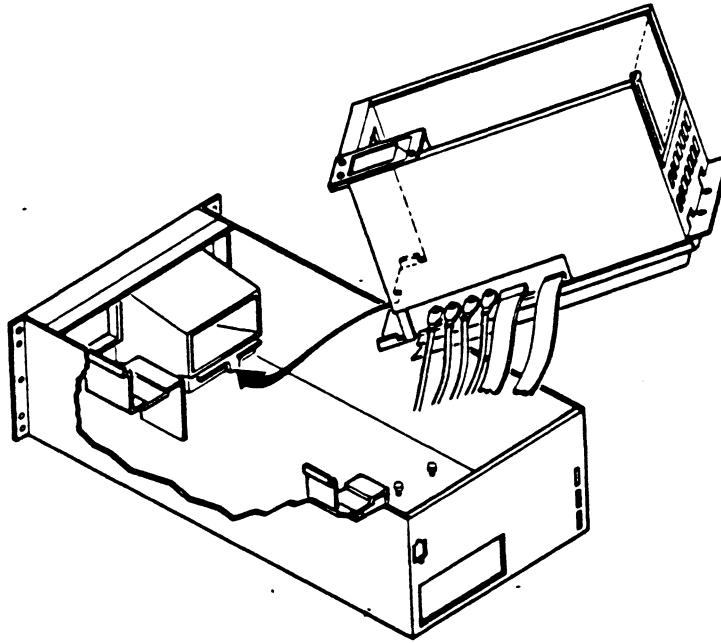

FIGURE 5-33 BOX BACKPLANE REMOVAL
6. Remove the four 1/4-inch nuts securing the four power cables. Unplug the two backplane cables. See Figure 5-33.